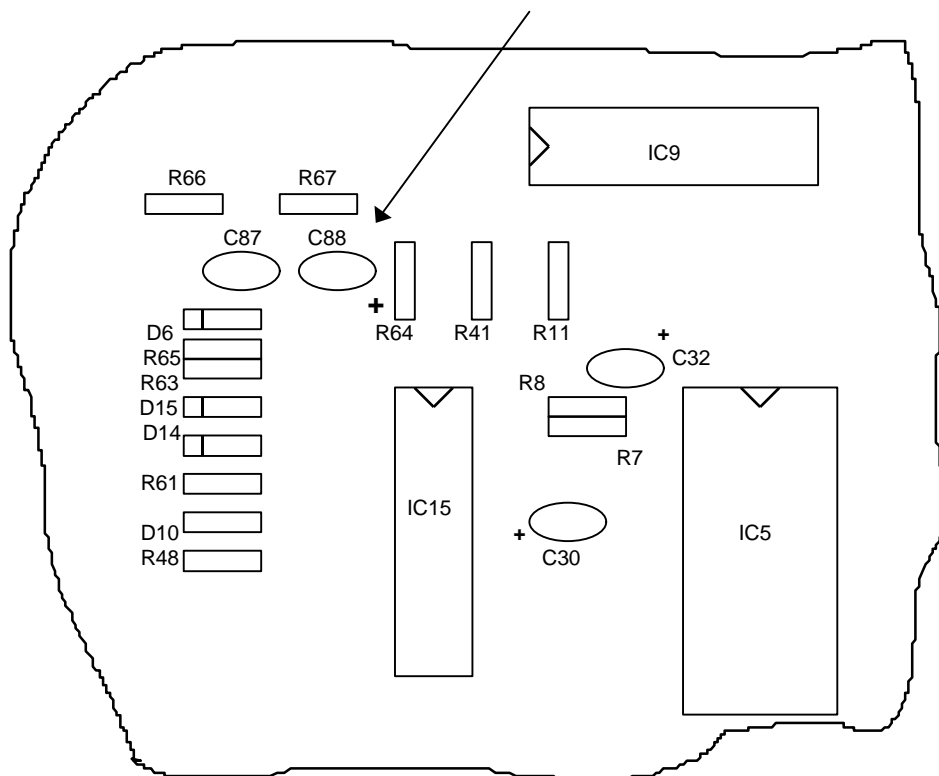

Figure 1. Part of 9103 Tuner Assembly
- III. Check the orientation of Capacitor C88 as per the attached Fig 1 and if incorrect -